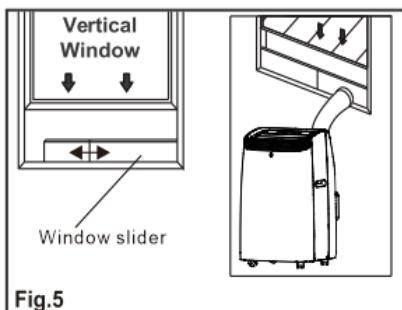

Fig.5
- 4 .Affix the hose outlet into the window slider kit and seal. [Fig.5 & 6].